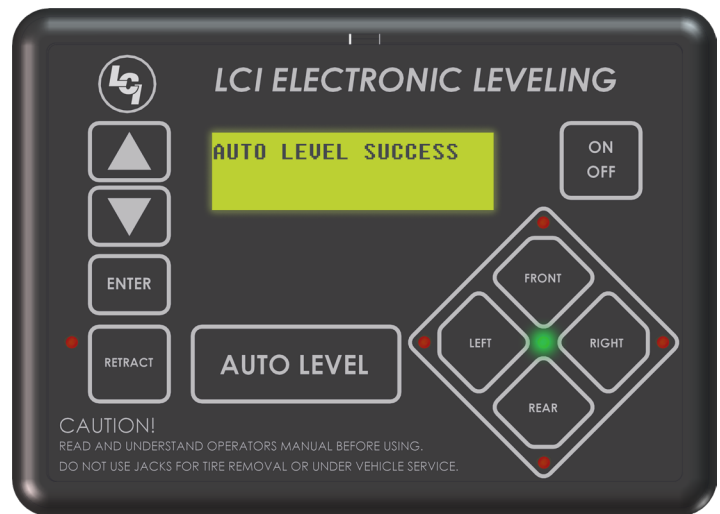

Fig.24
5. LCD will read "AUTO LEVEL SUCCESS" (Fig. 24).